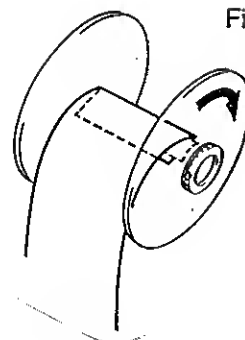

Fig. 3
- 4) Insert the paper end into the slit on the take-up Reel and wind it around the reel two or three turns. (Fig.3)